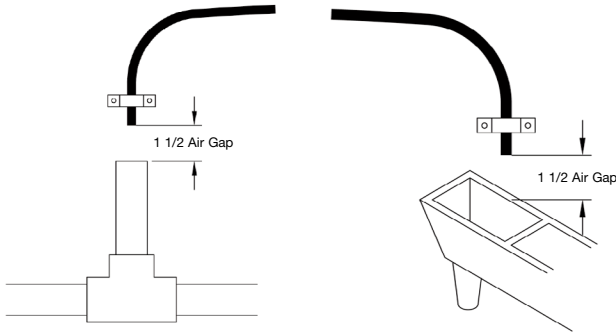

Figure 7: Also be sure drain line has an air gap.
2. If the drain line is a 5/8" outside diameter X 1/2" inside diameter flexible poly tube, slide the nut onto the poly tube, then place the poly tube insert into the end of the poly tube and tighten the nut on to the 3/4" drain line fitting. The nut is only designed for use with flexible poly tube. Use other nuts if attaching different materials. Run line to a drain. Making sure you have a 1 1/2" airgap. You may use a floor drain, standpipe or any open type drain (see Fig. 7 on page 12).